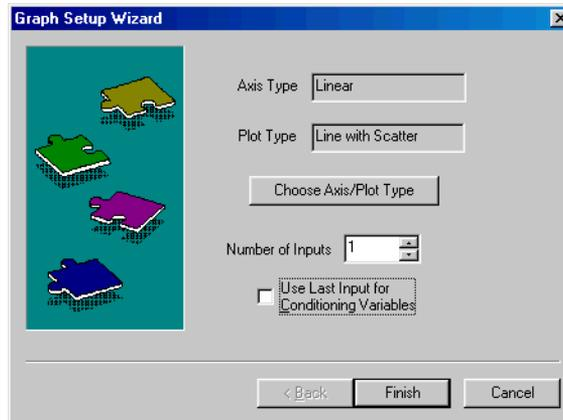

Figure 10.16: *The Graph Setup Wizard.*
3. Select **Spotfire S+ Graph** and then click **Next** to start the **Graph Setup Wizard**, as shown in Figure 10.16.